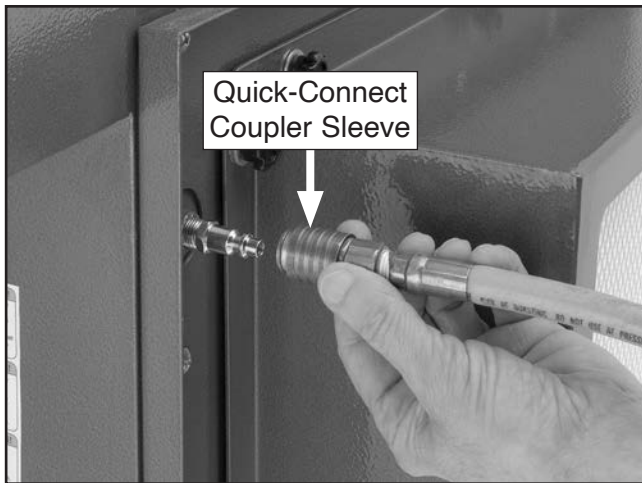

Figure 34. Air supply quick-connect coupler sleeve pushed back.
2. Push back sleeve on air supply quick-connect coupler (see **Figure 34**).